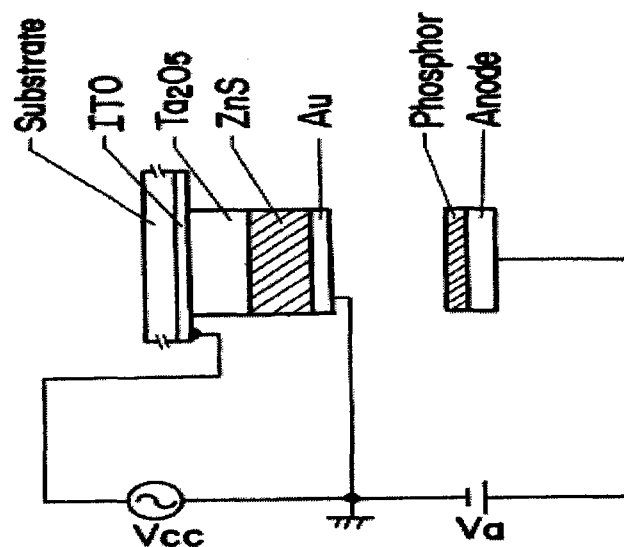

Figure 1. [Rajah 1]
1. (a) Describe in a few words, the operation of the field emission display (FED), shown in figure 1.